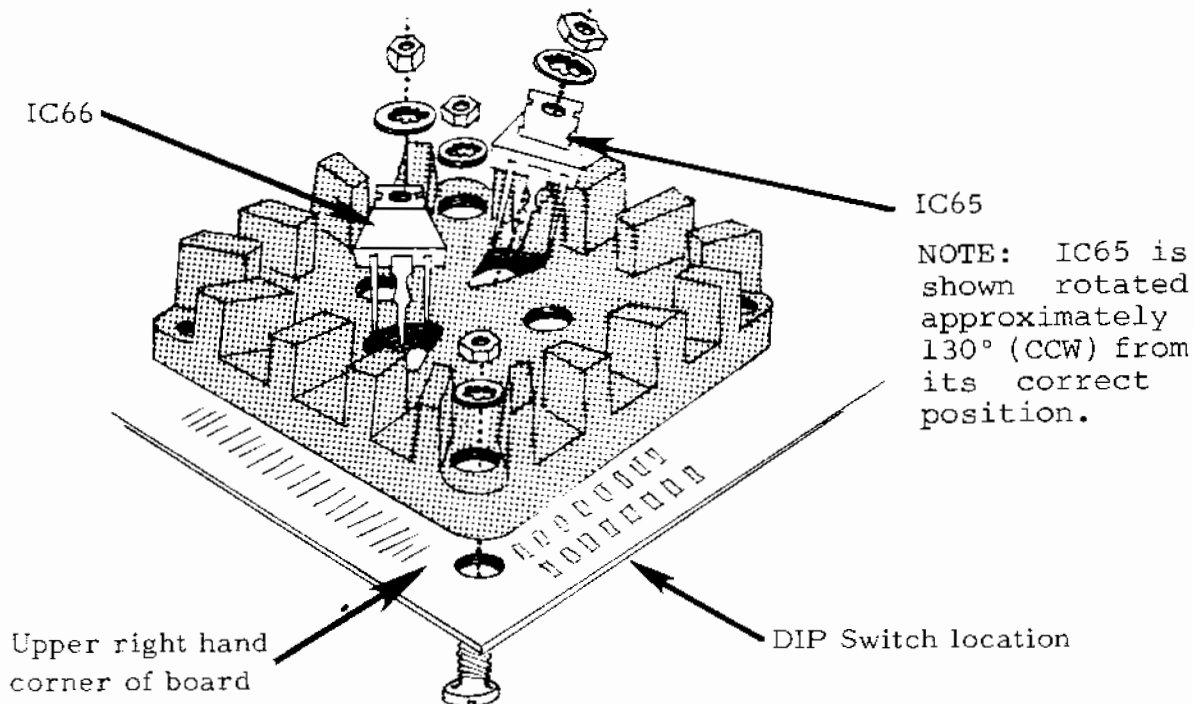

Figure 2-2. Heat sink and IC65 and IC66 installation.
- () Step 2. Install heat sink. Position the large, black heat sink (flat side to board) over the square foil area in the upper right corner. Orient the sink so that the two triangles of mounting holes in the board are under the triangular cut-outs in the sink. Using two 6-32 screws, lockwashers and nuts, attach heat sink to board. Insert screws from back (solder) side of board. (See Figure 2-2.)
- () Step 3. Install IC65 and IC66 (340T-5.0 or 7805UC). Position IC65 on the heat sink and observe how leads must be bent to fit the mounting holes. Note that the center lead (3) must be bent down at a point approximately 0.2 inches further from the body than the other leads. Bend leads so no contact is made with heat sink when IC65 is flat against the sink and its mounting hole is aligned with the hole in the sink. Fasten IC65 to sink using 6-32 screw, lockwasher and nut. Insert screw from back (solder) side of board. Solder and trim leads. Install IC66 the same way as you did IC65. (See Figure 2-2.)